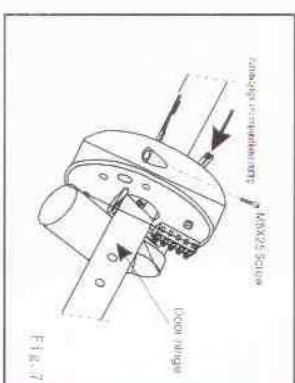

Fig. 7
3.10 The other gear wheel of two semicircles is loaded onto again, paid a screw urgent outside first, then from shut arm push to base to the side of the left deviation, another hand rotates the other gear wheel until another screw hole emerges right with hand, unclamp from shut arm, regular urgent another screw, such as Fig. 7;
Please install the backup battery following Fig7 (Given by your supplier)